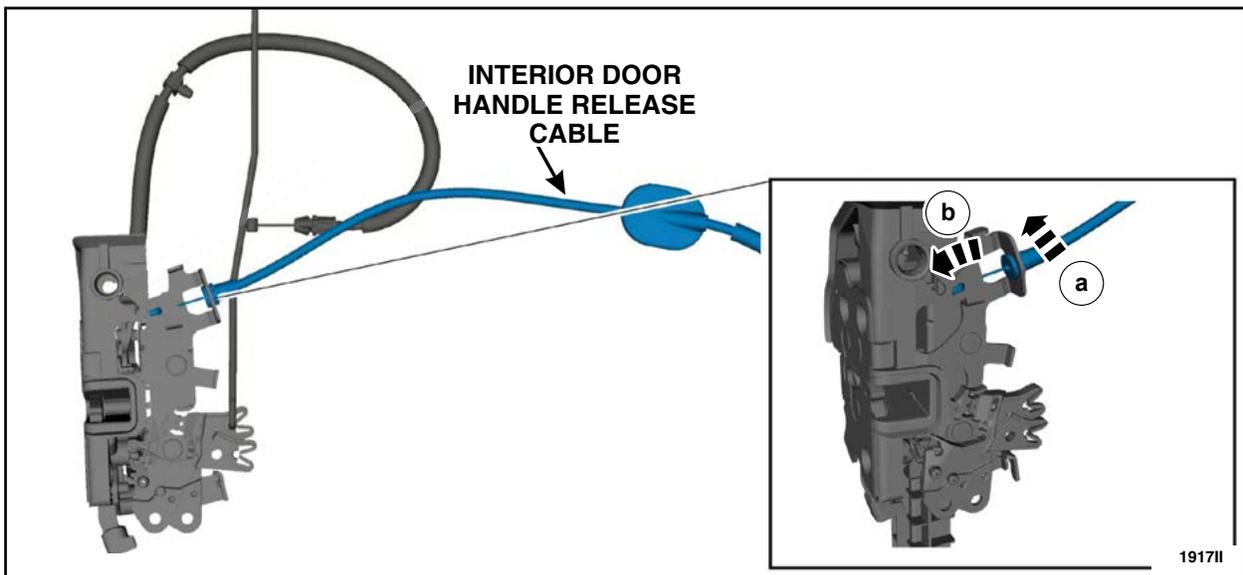

FIGURE 35
5. Replace the interior door handle release cable. See Figure 35.